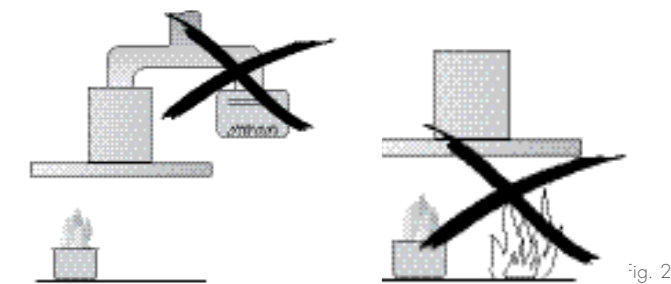

Fig. 2
- Do not leave lit gas burners exposed due to the risk of fire. (Fig 2)